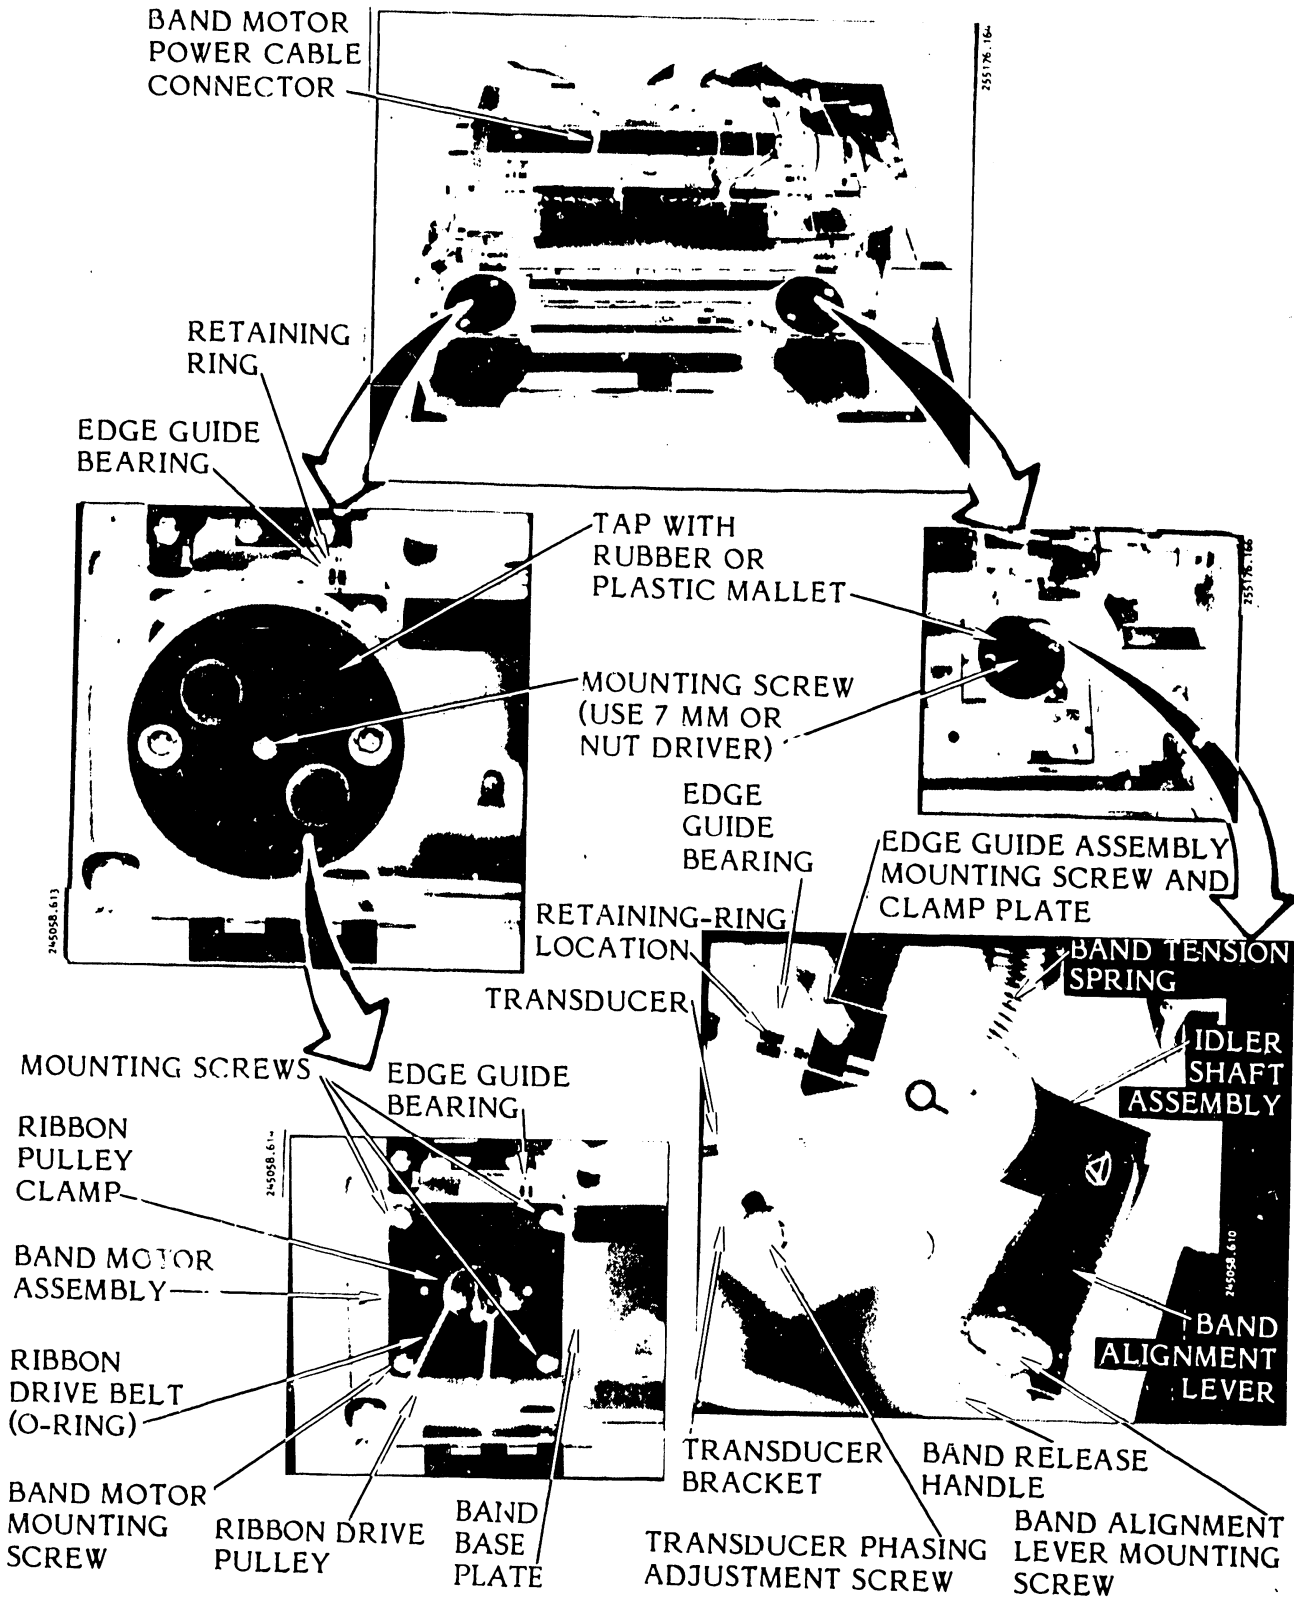

Figure 3-75. Band and Idler Pulley/Driver (O-Ring System) Removal/Installation
3.7.3 Band and Idler Pulley/Driver (O-Ring System) Removal/Installation (Figure 3-75)
- d. Use a 7 mm nut driver to remove the driver pulley hex head mounting screw (see figure 3-75).